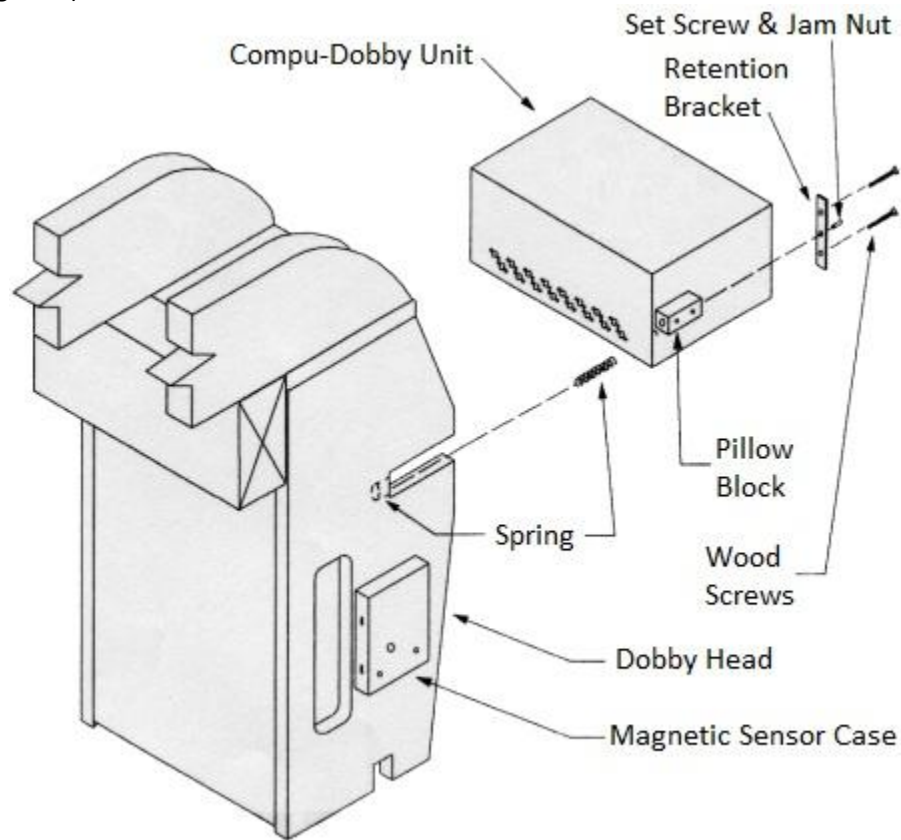

Figure 5: Compu-Dobby – Dobby Head for FDL/PDL/TDL
- Align the blocks with the slots in the Dobby head and slowly slide the unit into the Dobby head as shown in Figure 5.